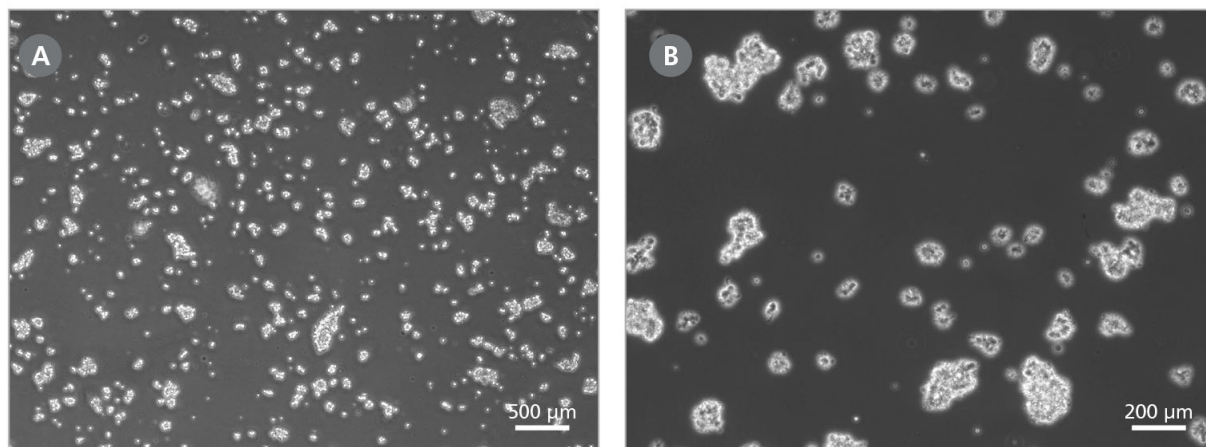

Figure 3. Aggregate Size of Human Pluripotent Stem Cells Following Passaging With ReLeSR™
Note: Optimal dissociation time may vary depending on the cell line used; when passaging a cell line with ReLeSR™ for the first time, the optimal dissociation time should be determined (for more information see Figure 3 and section 8.0).
8. Transfer the detached cell aggregates to a 15 mL conical tube using a 5 mL serological pipette (e.g. Catalog #38003). Cell aggregates should be appropriately sized for plating (mean aggregate size of approximately 50 - 200 µm; see Figure 3).